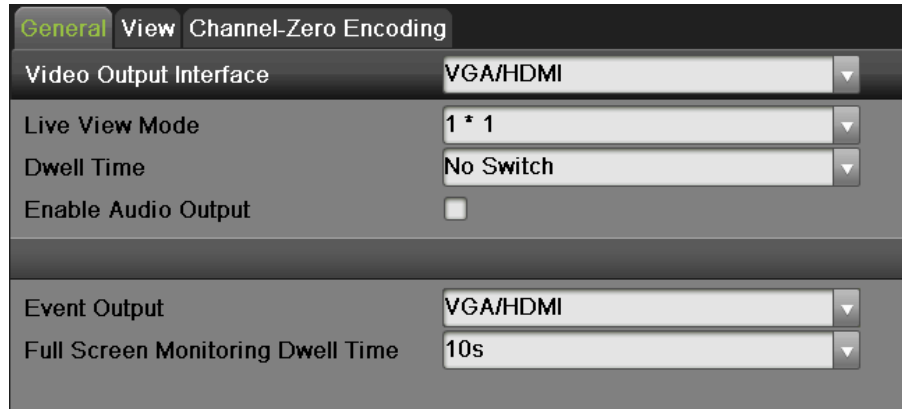

Figure 40 Live View Menu
3. Set the live view interface parameters and event output by going to Menu > System Configuration > Live View > General, as shown in Figure 40.